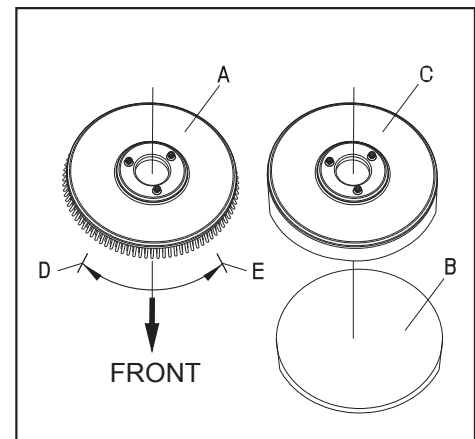

FIGURE 8
According to the type of floor to be cleaned, the machine may be installed with brush (Figure 8, A), or a pad-holder (Figure 8, B and C).
1. Make sure the switch (41) is at the disconnecting (Off) position.
2. Press down the handle (2) to lift the tank body (26).
3. Put the brush (A) or the pad-holder (B – C) under the case.
4. Use the handle (2) to lower the tank body (26) to come into contact with the brush or pad-holder.
5. Manually attach by following the arrow head (D) to install the brush/pad-holder (as shown in Figure 8).
6. Remove by turning the brush/pad-holder in the opposite direction and it can be taken off. (Figure 8)